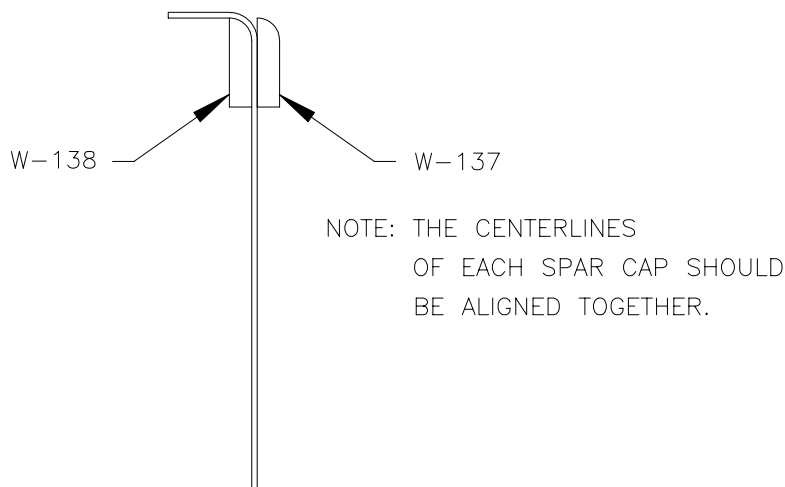

Figure 8.1.6
- 11) Cleco W-137 and W-138 to the Main Spar. Figure 8.1.6.